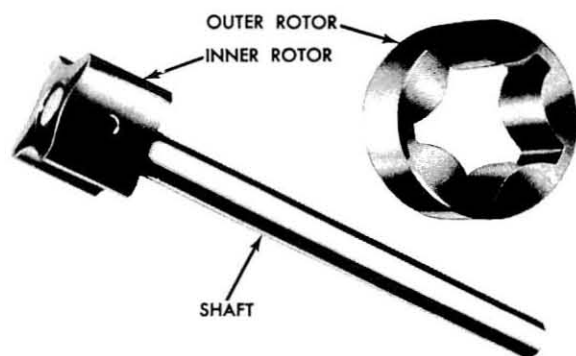

Fig. 19—Oil Pump Rotor and Shaft Kit
**NOTE:** If rotors are worn beyond the specified limits, replace them with Oil Pump Rotor and Shaft Kit number 7HA-6650 (fig. 19).